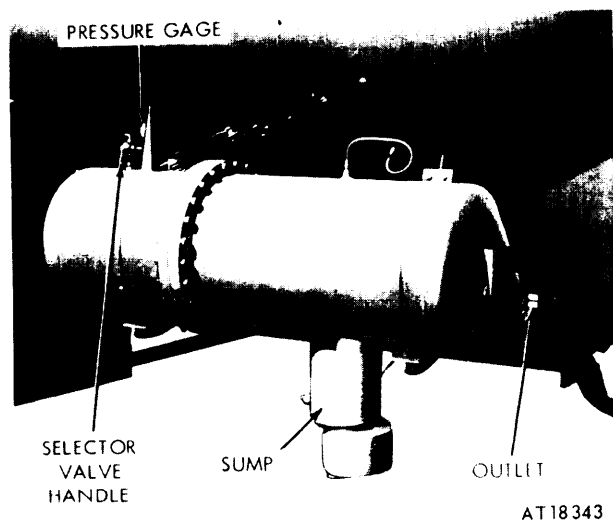

Figure 2-14. Filter-segregator assembly-M131A4C.
*p. Selector Value* (fig 2-14). This valve is used to obtain gage readings of inlet and outlet fuel pressures in
## 2-14. Filter-Segregator (fig 2-14 and 2-15)
M131A4C vehicle is equipped with a single pressure gage connected to a selector valve (fig 2-14) on the filter-segregator case for checking both the inlet port and midsection pressures. The pressure drop is determined by turning the pointer on the handle of the selector valve to the inlet port end and recording the reading on the gage. The handle is then rotated to the midsection end and the reading recorded. The difference in the readings is the pressure differential across the first-stage elements.